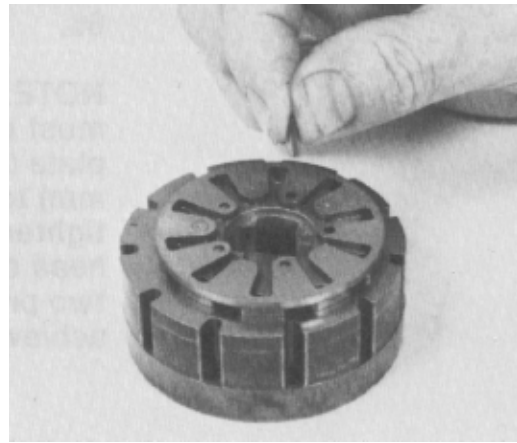

Figure 94
14. Align the five holes and press the five alignment pins in place (Fig. 94).